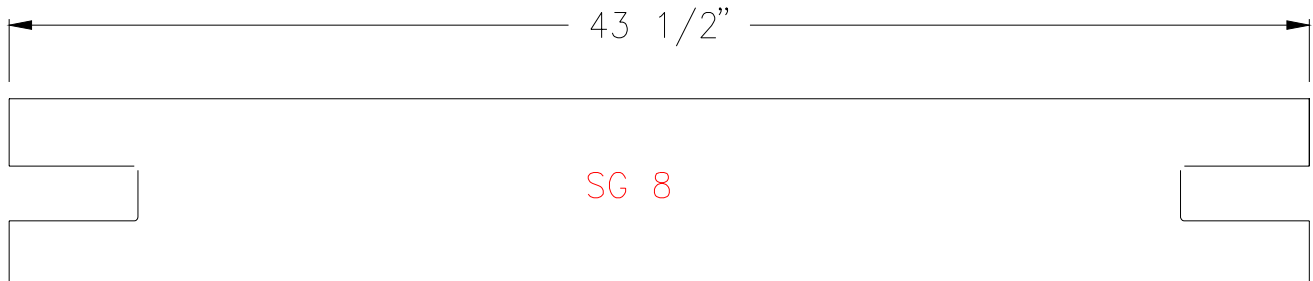

Figure 14.1.9
23) Next, cut out the other SG-7 ( 43 3/4" x 5 1/4" x .063") plate to match the shape of SG-14. Figure 14.1.9. This piece becomes SG-8.